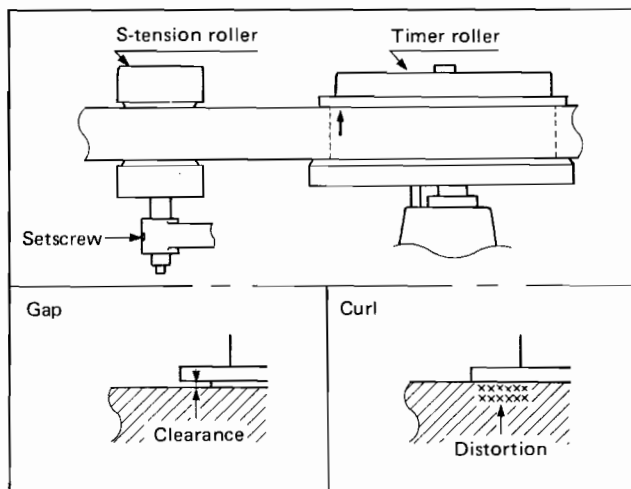

Fig. 5-13
2. Adjusting the S-tension roller height, set the tension roller so that there are no clearance and curl at the entrance (indicated by arrow) on the upper flange of the timer roller. (Fig. 5-13)
5. Confirm that there is no tape curl when it runs passing through the timer roller, S-tension roller, T-tension roller, S-guide roller, and T-guide roller (Fig. 5-13, 14, 15, 16).
8. Confirm that there is no tape curl when it runs passing through the timer roller, S-tension roller, T-tension roller, S-guide roller and T-guide roller. (Fig. 5-13, 14, 15, 16.)